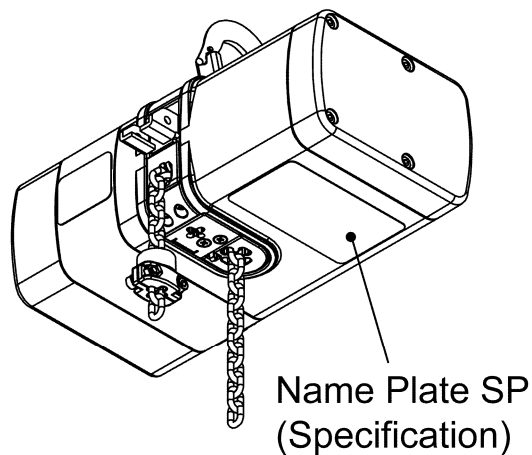

Figure 2-1 Identifying EM versus SEM Models
2.1.2 EM and SEM Models - Harrington EM series hoists are available in both three phase and single phase power. The EM model is the 3 phase version and the SEM model is the 1 phase version. Refer to Nameplate SP to verify the model by referencing the product code and voltage requirements. (See **Figure 2-1**)